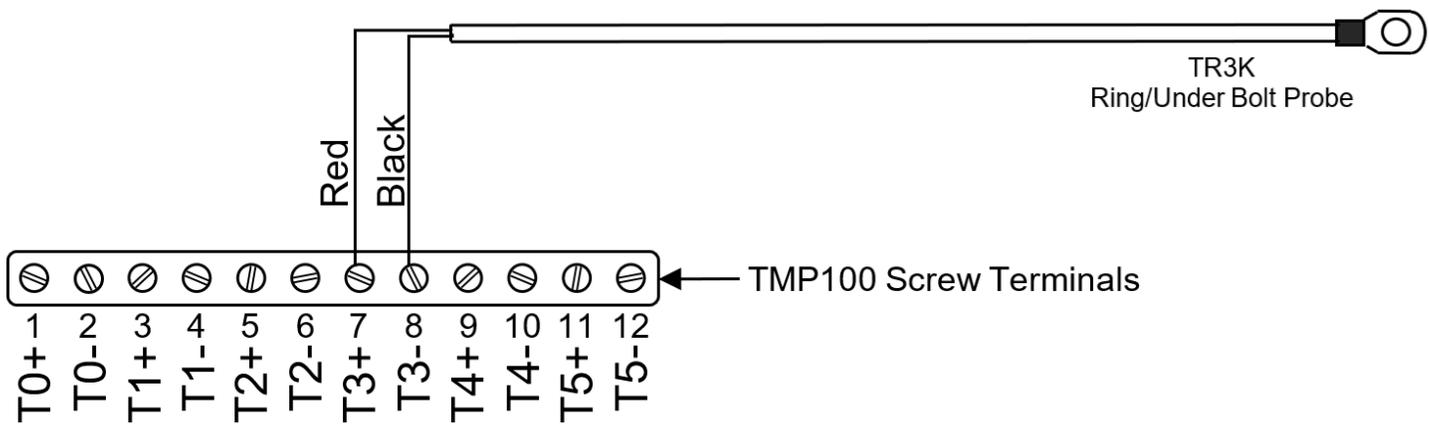
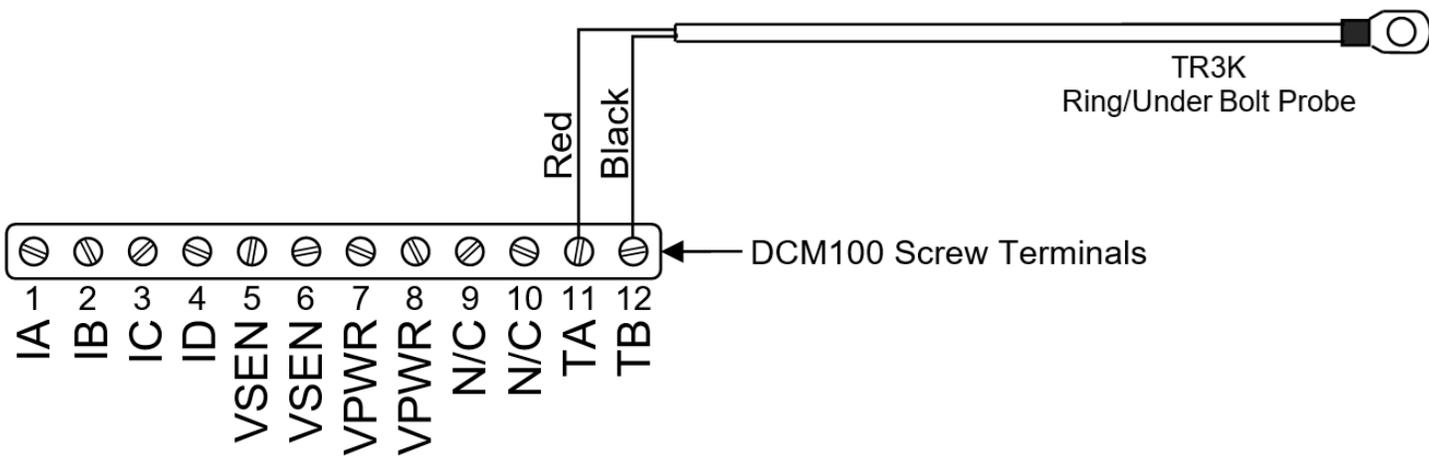

Figure 1 – TMP100 Wiring Diagram
Figure 2 – DCM100 Wiring Diagram
Please follow these instructions to connect the TR3K temperature probe to the NMEA 2000® network via a Maretron TMP100 Temperature Module. The wiring diagram appears in Figure 1 below. The diagram shows a connection to channel #3, but connections to other channels are similar.
3. Connect the red and black wires to the appropriate Tx+ & Tx- terminals on the TMP100 as shown in Figure 1 and the TA & TB terminals on the DCM100 as shown in Figure 2.